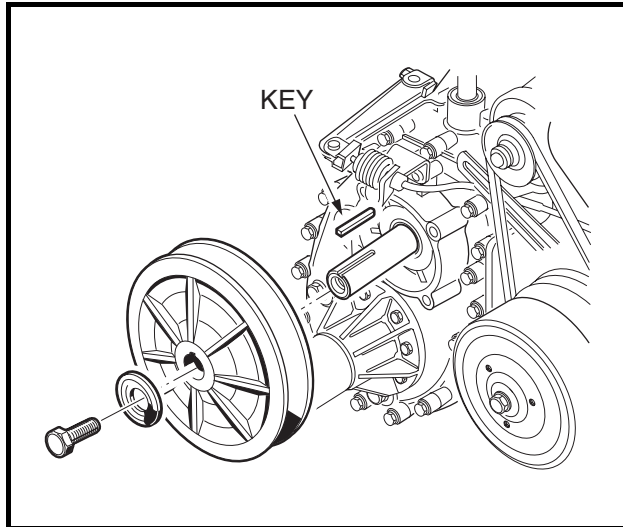

Figure 16-44 Driven Clutch
11. Install the key onto the input shaft (**Figure 16-44, Page 16-19**).
12. Position the driven clutch on the transaxle input shaft and install the washer (yellow side facing out) and mounting bolt and tighten to 14 ft-lb (19.0 N·m) (**Figure 16-44, Page 16-19**).